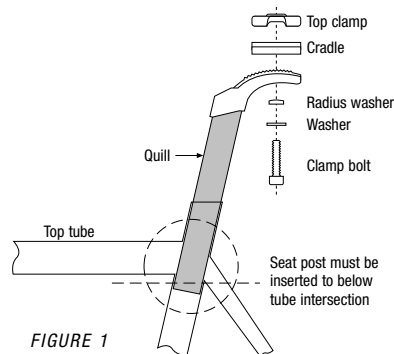

FIGURE 1
- The seat post must be inserted into the seat tube a MINIMUM of 70 mm (2.75 inches) for proper post life. However, many frames require more than the minimum 70 mm insertion. The seat post must be inserted deep enough into the frame to ensure that the bottom of the seat post extends past the bottom edge of the top tube (see Figure 1).